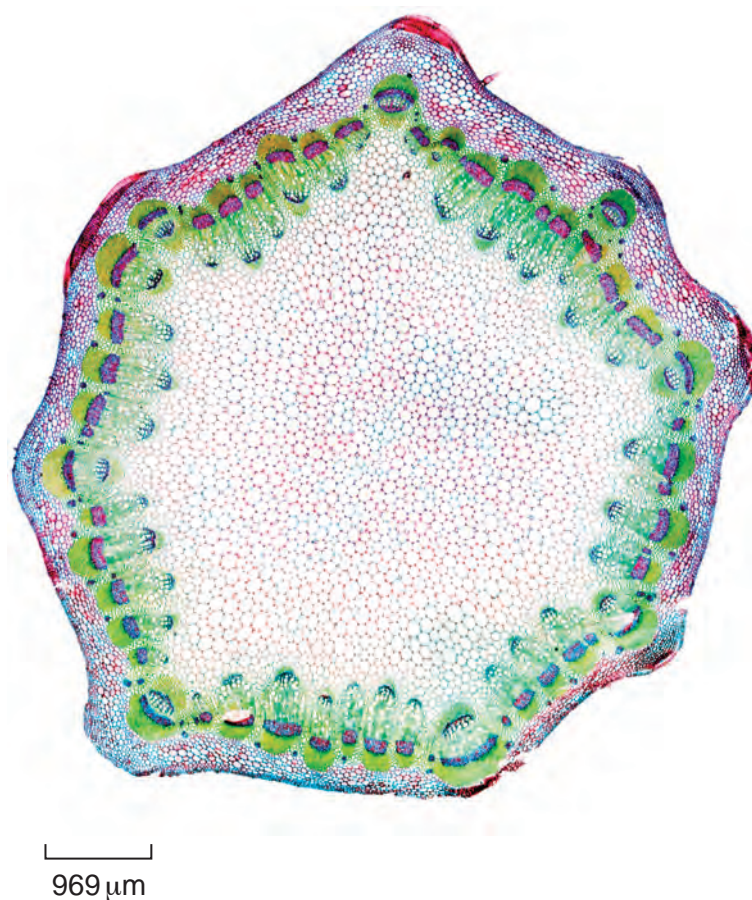

Fig. 2.2
- (b) Fig. 2.2 is a photomicrograph of a stained transverse section through a stem of a different plant species.
- (i) Calculate the magnification of Fig. 2.2 using the scale bar.
- (ii) Prepare the space below so that it is suitable for you to show the observable differences between the specimens shown on **J1** and on Fig 2.2.
Question 2 Fig 2.2 © DR KEITH WHEELER/SCIENCE PHOTO LIBRARY